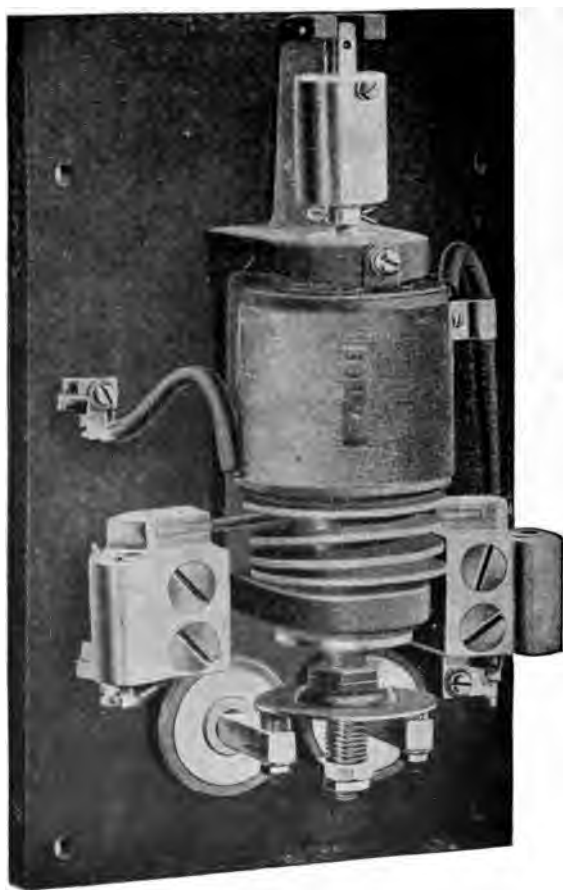

Fig. 498. Current Limit Relay.
36. THE CURRENT LIMIT RELAY (Fig. 498) is located on the switchboard. It consists of an electromagnet provided with two coils. The master control circuit passes through the upper coil and the main circuit for motor No. 1 through the lower coil. The master control circuit coil lifts the plunger for each step during *acceleration* and interrupts the contactor pick-up circuit,